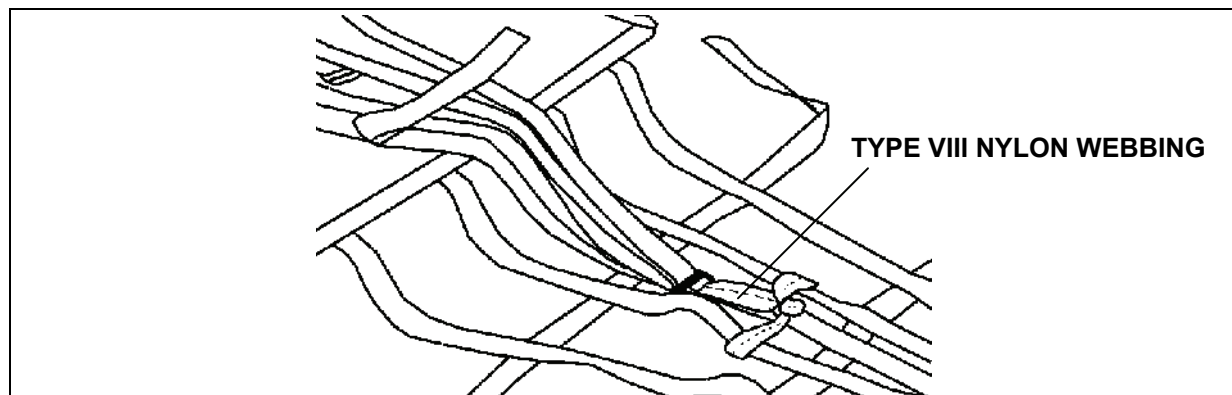

Figure 8-11. D-Ring Tied to Sling Assembly
- Use a length of Type VIII nylon webbing to tie the support web D-rings exposed at the front and rear of the load to the other A-22 sling assembly as shown in Figure 8-11.